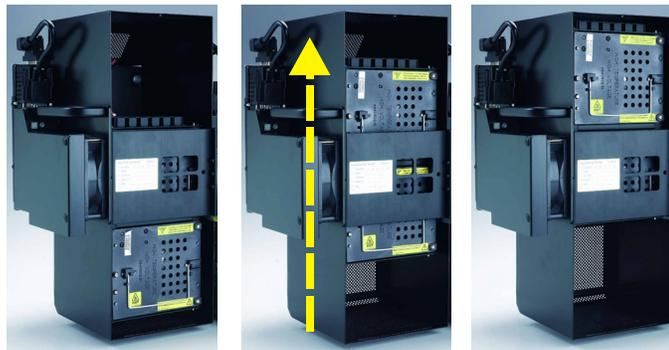

FIGURE 5-6 CHANGING THE LAMP POSITION
8. If the other lamp requires replacement, change the lamp position (*Figure 5-6*) to access the other lamp. Let the lamp cool and replace it using the steps described earlier in this procedure.